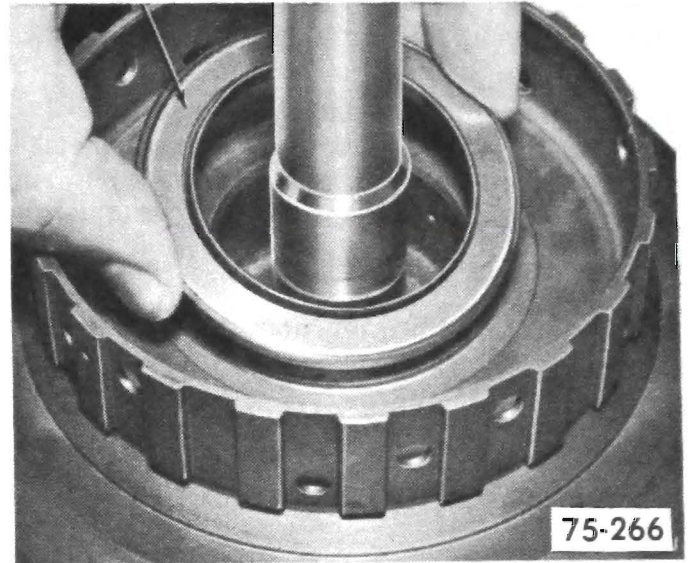

Figure 75-163
4. Remove direct clutch drum to forward clutch housing needle roller bearing. See Figure 75-163.